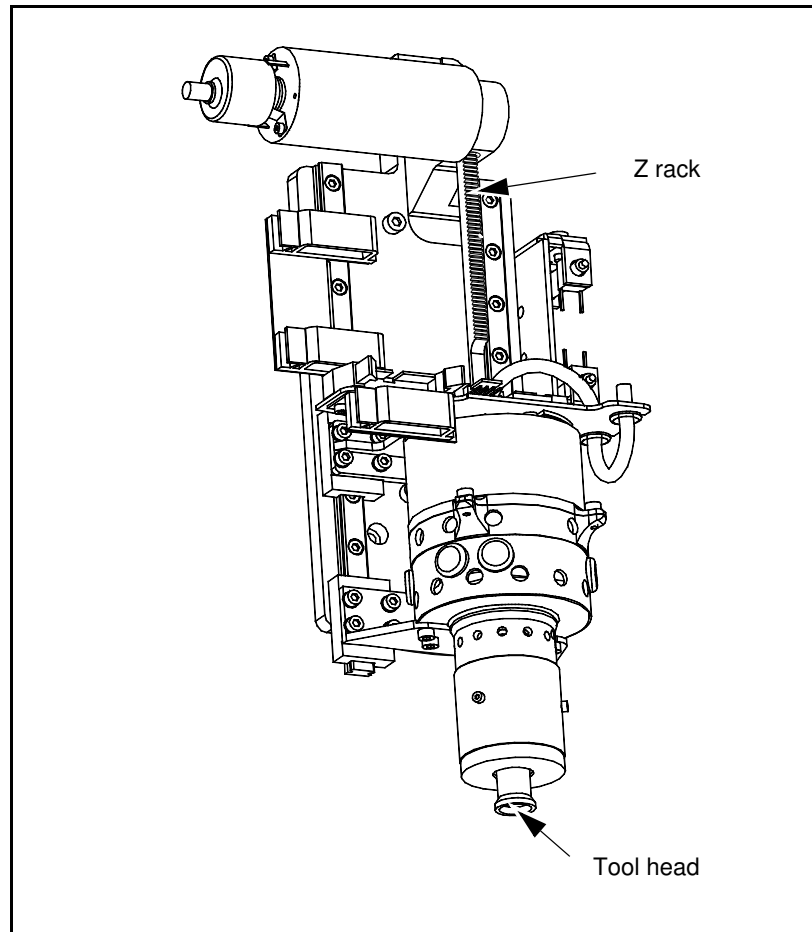

Figure 18-11. Single mount head, Z rack and tool head position.
- Clean dirt and dust out with a cotton wool bud from the inside of the tool head. Be careful not to damage the force sensor inside the tool head. Lubricate the inside of the tool head by inserting and removing a greased tool manually, see Figure 18-11.
- Wipe off old grease and dirt from the Z rack with a cloth and apply a new thin layer of OKS 270 grease, see Figure 18-11.